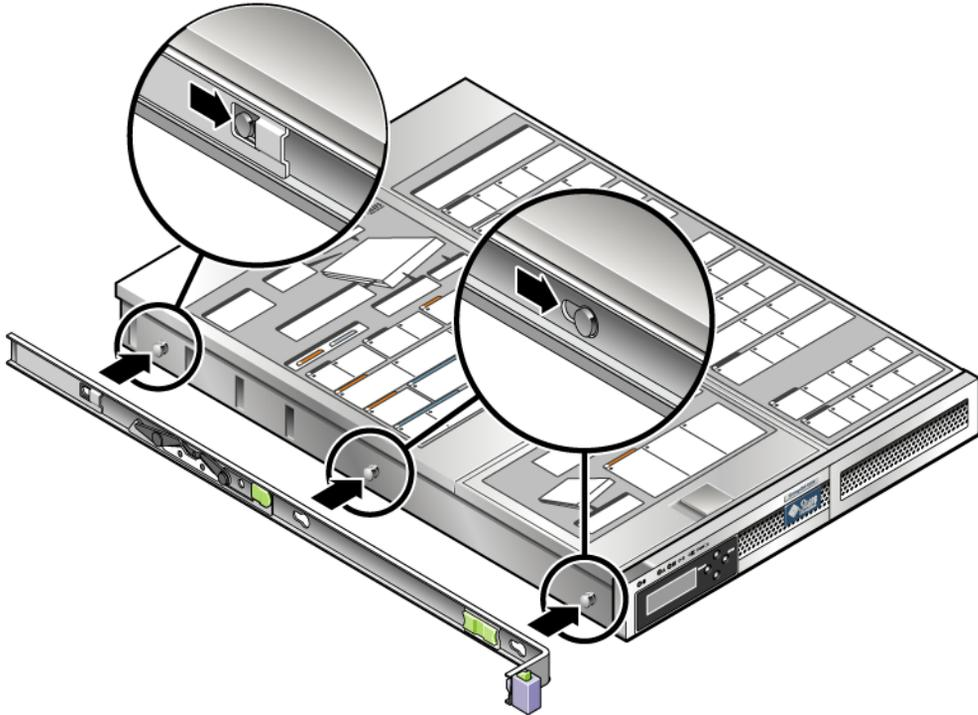

FIGURE 2-15 Attaching a Mounting Bracket to the Chassis
- a. Position the mounting bracket against the appliance chassis (FIGURE 2-15) so that the bracket's slide rail lock is at the front and its three keyed openings align with the three locating pins on the side of the chassis.
- c. Verify that the three pins are trapped in their openings and that the back pin has engaged the mounting bracket lock, as shown in FIGURE 2-15.